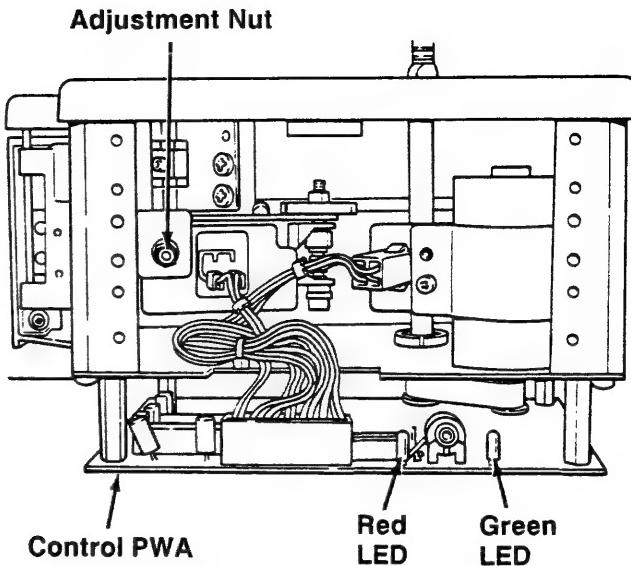

Figure 3-6A
8. Turn the Manual Scan Control clockwise. The Green LED on the Control PWA (Figure 3-6A) should go out while turning the Manual Scan Control and stay on when the Manual Scan Control is not turned. Turn the Adjustment Nut (Figure 3-6A) until this condition is met.
9. Turn the Film Speed Control clockwise until the Glass Flat just opens. The Red LED on the Control PWA (Figure 3-6A) should steadily pulse. Readjust the Adjustment Nut until this condition is met.
1. Turn the Adjustment Nut (Figure 3-6A, pg 3-8) so the Channel 1 waveform leads the Channel 2 waveform by $90^\circ \pm 15^\circ$ (Figure 3-6. 2C).